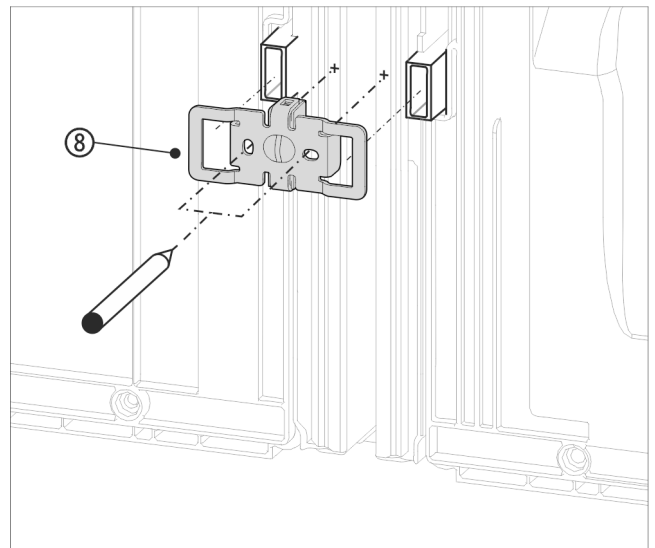

Fig. 16 Example illustration
- ▶ Slide the bracket *Fig. 16 (8)* with the slots over the retainer for the wall spacers.